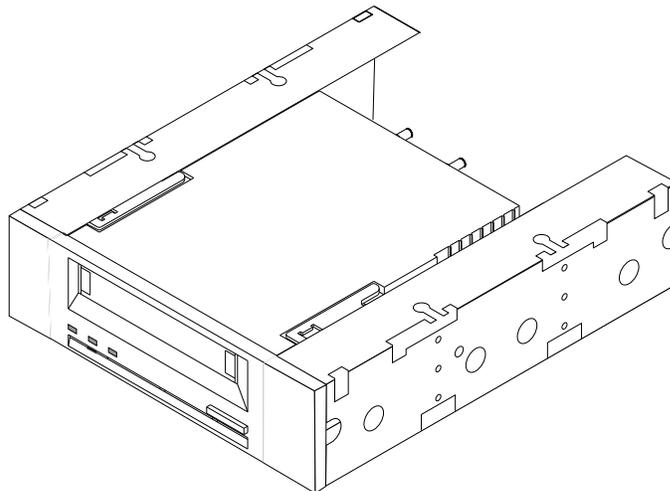

Figure 2. Internal Drive with Drive Rails for Mounting in a 5.25-inch Drive Bay
- A 5.25-inch, half-height drive that consists of a 3.5-inch drive with 5.25-inch mounting rails and bezel that mounts internally in a 5.25-inch, half-height space (see Figure 2)